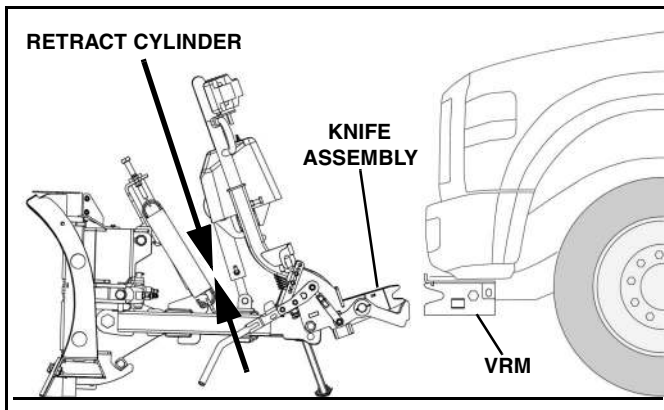

Figure 1-36
3. Retract the lift cylinder (raise the plow) until the A-Frame contacts the stacking stop. (See Figure 1-36).